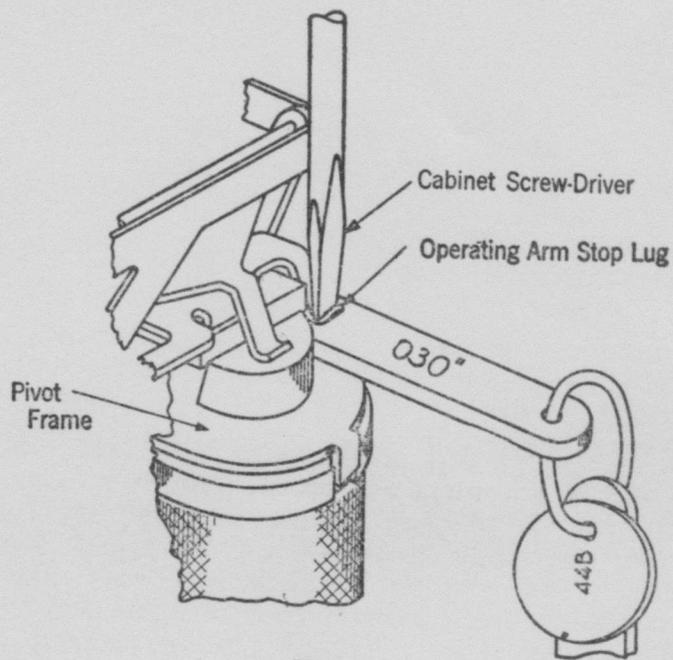

Fig. 17
5.13 The coin trigger when in the operated position shall restore to its normal position and there shall be a perceptible clearance (approximately 1/64") between the top of the coin trigger and the coin trigger lever when either of the operating arm stop lugs is given its full travel, but shall not restore when either of the operating arm stop lugs is moved down slowly by hand to within .030" of its full down travel when pressure is applied inside the rounding at the end of the operating arm stop lugs as shown in Fig. 17. To adjust proceed as follows: